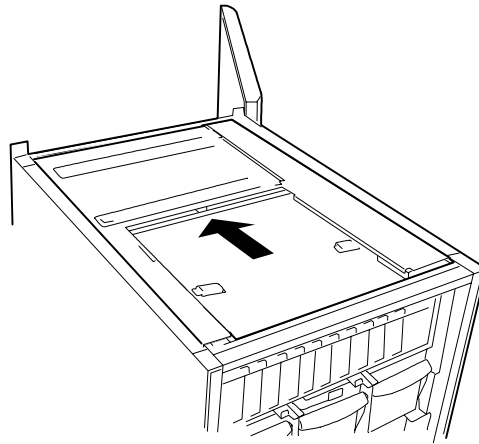

Figure 4-6. Disengaging the BSU Top Cover
3. Pull the top cover slightly forward until its hooks are disengaged from the chassis. See Figure 4-6.